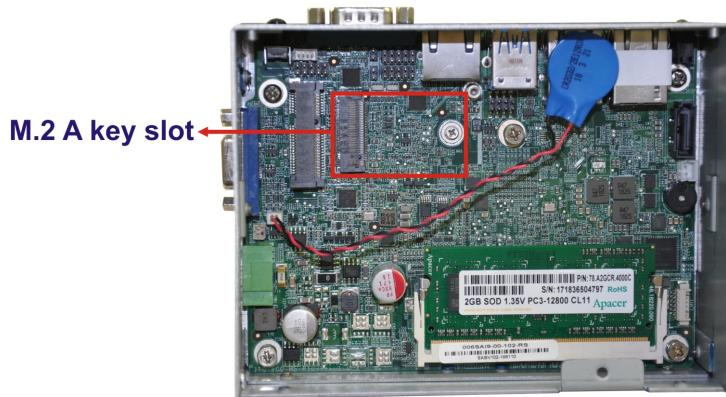

Figure 3-7: M.2 A key Slot Location
Step 3: Locate the M.2 A key slot. Remove the on-board retention screw. (Figure 3-7)